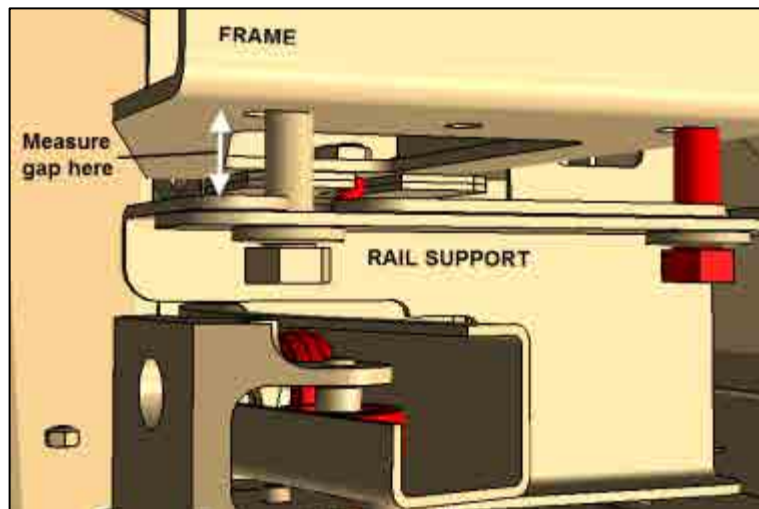

Figure 61
93. Measure the gap between the rail support and frame. (Figure 61)